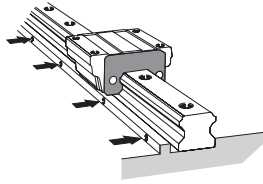

Fig.5 Tightening the Set screws
- (3) Secure the set screws for the LM rail in order with a tightening force just enough to have the rail closely contact the side mounting surface. (Fig.5)